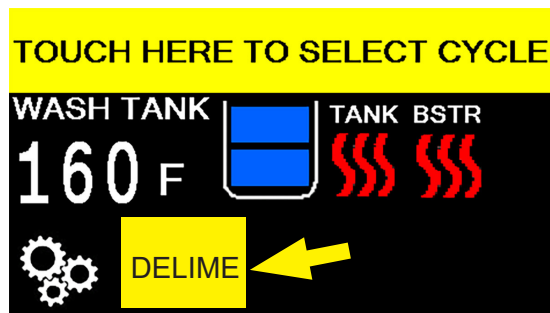

Fig. 81 - Press DELIME button to start
1. Press the DELIME button, (Fig. 81).